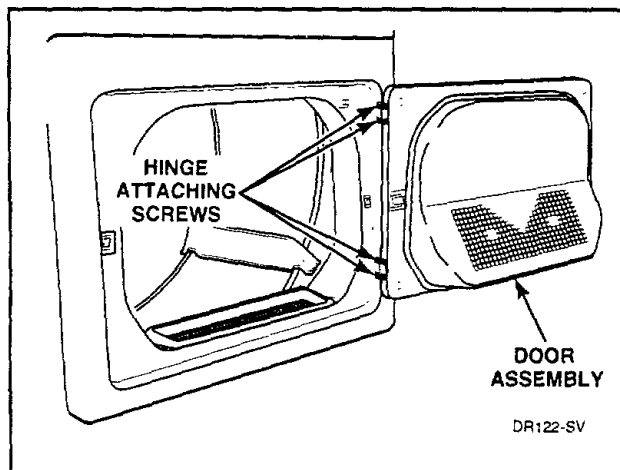

Figure 16
- Support door and remove four screws holding hinges to front panel, *Figure 16*. Remove complete door assembly.